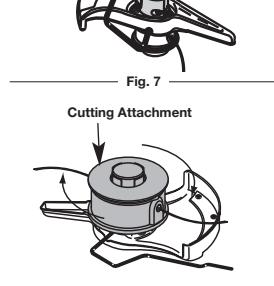

Fig. 7
2. Hold the locking rod in place by grasping it next to the boom of the unit (Fig. 7).
- Hold the locking rod in place by grasping it next to the boom of the unit (Fig. 7).